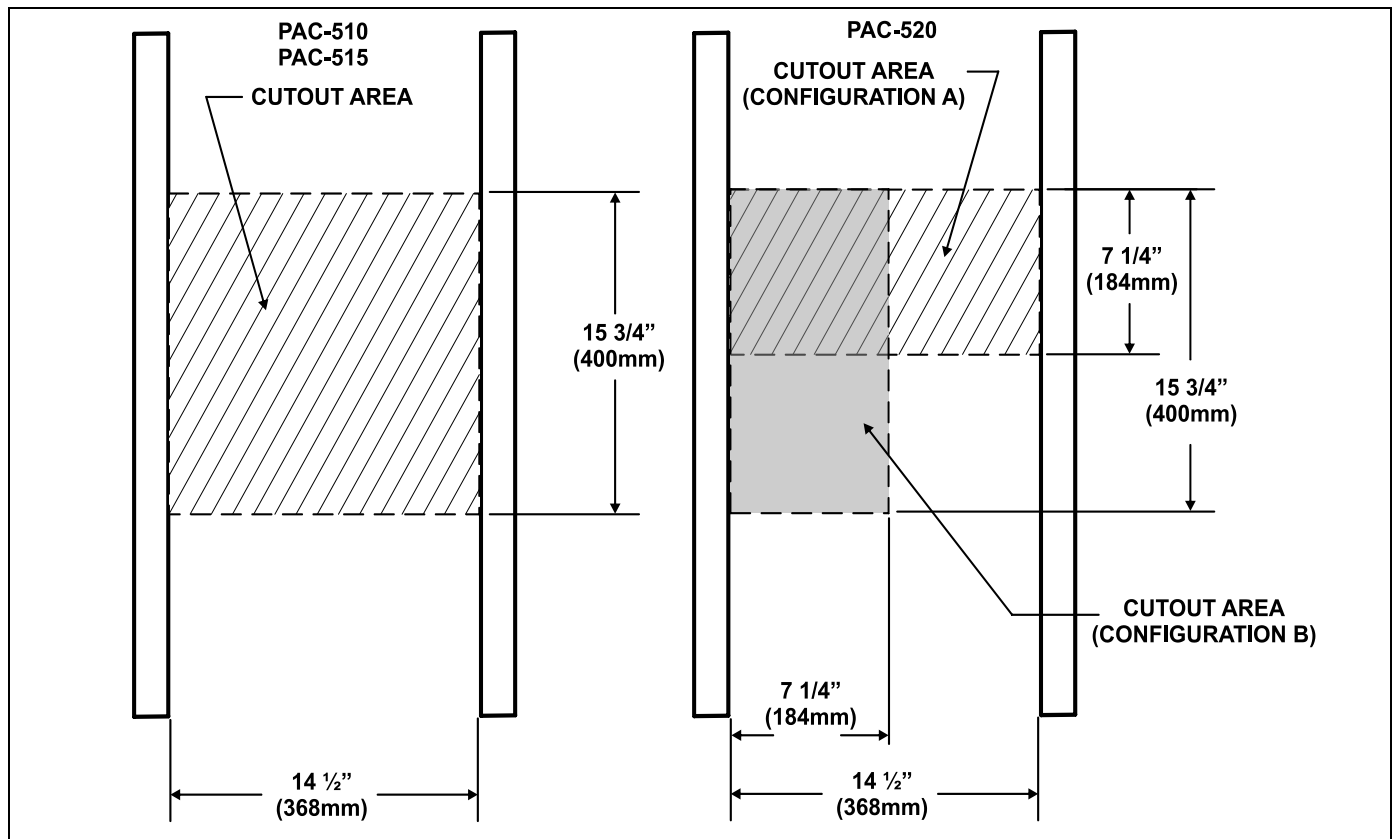

Figure 1
5. Using a measuring tool, measure the marked area and compare to the dimensions shown in figure 1 below. If measurements match continue to step 6 if not adjust markings to match dimensions in figure 1 below.